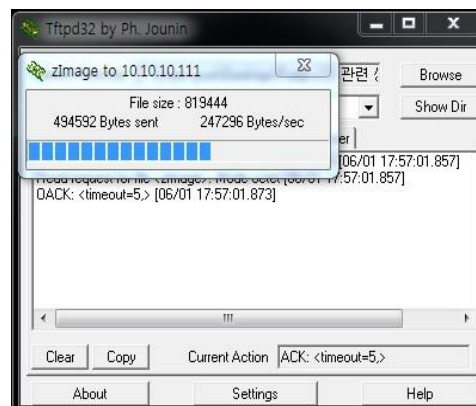

Figure 13. tftpd32 - 'zimage' writing
15. Then, 'zimage' file starts to write on the 'tftpd32' program (see Figure 13).